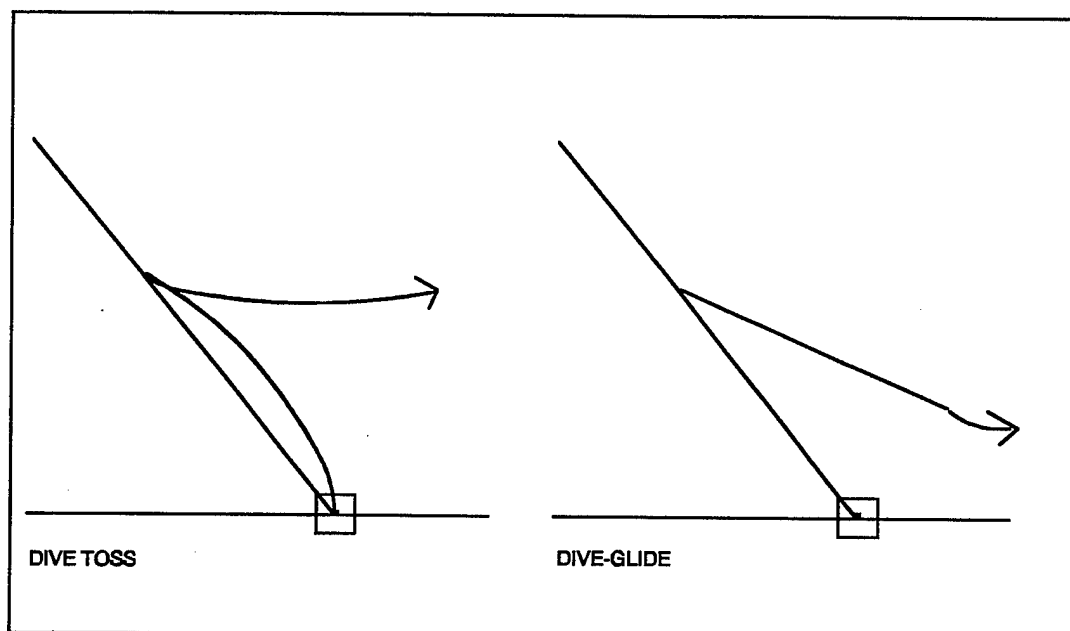

FIGURE 3.11 DTOS-Release Techniques
(2) With your eyes focused on the target, bring the TD box piper smoothly up towards the target, reducing the rate of movement as it comes to bear on the chosen aim point. Track for a split second and designate with the pickle button or designate button. When you designate, the TD box becomes ground stabilized. Designating with the pickle button and holding it until release is the easiest method. If you do designate with the designate button, you'll have to depress the pickle button prior to the solution cue reaching the FPM. Hold the pickle button depressed until the solution cue intersects the FPM and the FPM begins to flash to indicate release. The FPM will continue to flash until you release the pickle button.
(3) Initiate a smooth, recovery-type pull keeping the FPM centered on the steering line. You can continue to pull into the true recovery which results in a "dive toss" delivery or you may relax the pull when the FPM is roughly 1,500 - 2,500 ft at 12 o'clock (See Figure 3.11). This will result in a "straight dive-glide" release. Theoretically, "dive toss" is as accurate as the "dive-glide" release. However, due to the possibility of an erroneous vertical accelerometer, the "dive-glide" technique may prove to be more reliably accurate.